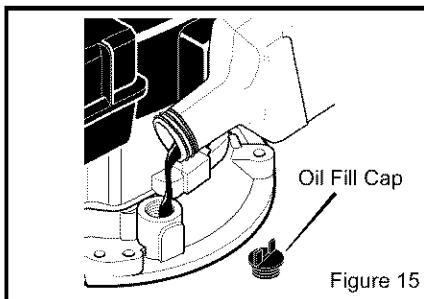

Figure 15
4. Remove the **oil fill cap** (see Figure 15). Fill the engine crankcase. Pour slowly. Do not overfill. See "Product Specifications" for amount and type of oil. Install the **oil fill cap**.